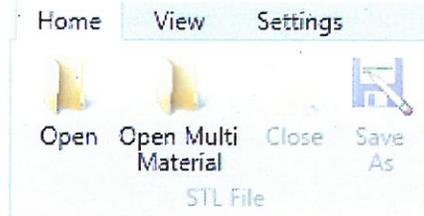

Figure 6: Open Icons
6. Open your **STL** file by clicking **OPEN** and navigating to the correct location on the computer (Figure 6).